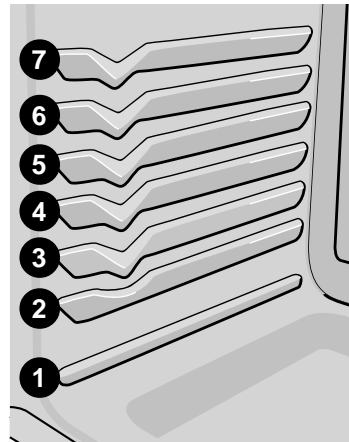

Fig. 1
2. Arrange the interior oven rack to recommended position (Fig. 1 and Fig. 4). For best browning results, preheat oven for **5 minutes** before adding food.